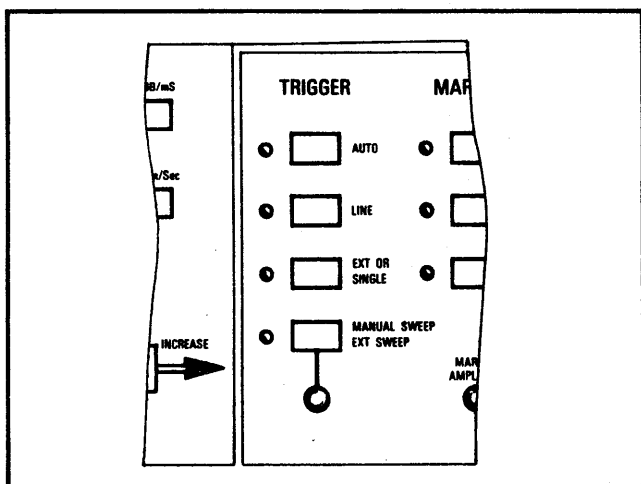

Figure 3-14. TRIGGER Pushbuttons
4. EXT SWEEP Pushbutton (Figure 3-14). Provides for sweeping the output frequency using an external sweep ramp, which is supplied via the rear panel EXT SWEEP connector. EXT SWEEP is selected by first pressing SHIFT, then this pushbutton. Approximately 1 second after pressing EXT SWEEP, the front panel will automatically return to its unshifted (normal) state. Pressing any other TRIGGER pushbutton will deactivate EXT SWEEP. RESET (default) state: Off.
The TRIGGER pushbuttons (Figure 3-14) select a trigger mode for the frequency sweep. These pushbuttons are interlocked so that only one may be selected at a time. A description of each pushbutton follows: